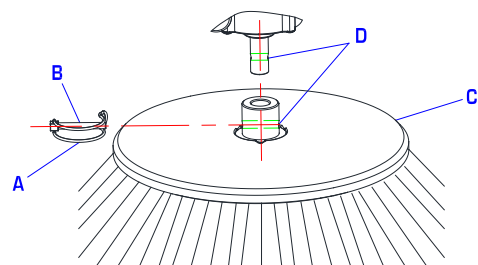

Figure8
1) Drive the machine on a level ground and release the pedal (2) and stop the machine.
2) Turn the ignition key (71) to "0".
3) Release the spring (A, Fig. 8), remove the pin (B) and the brush (C) from the gearmotor shaft.
4) Install the new side brush on the gearmotor shaft, insert the pin (B, Fig. 8) in the holes (D, Fig. 8), and engage the spring (A, Fig. 8)